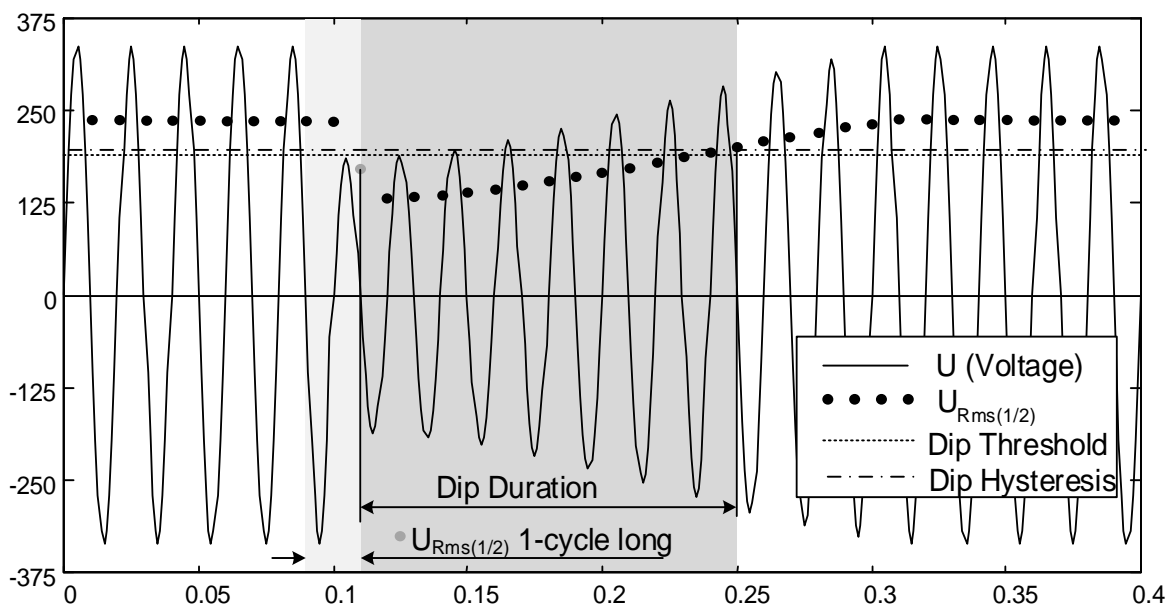
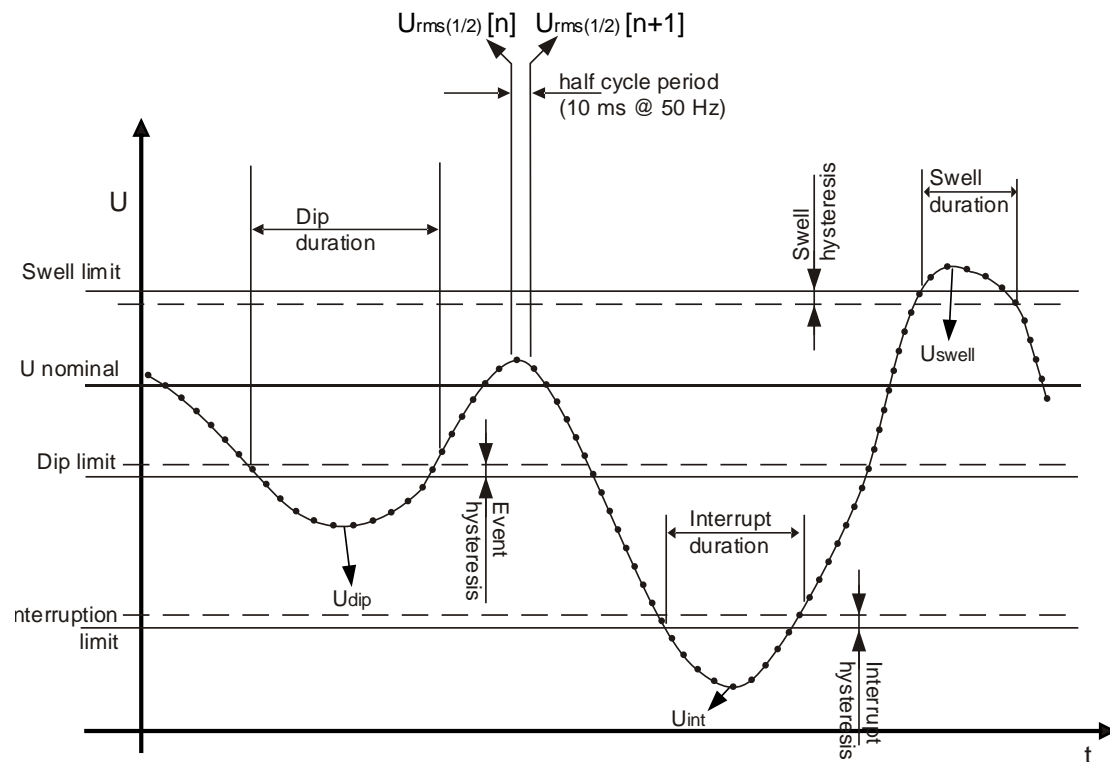

Figure 5.11:  $U_{Rms(1/2)}$  1-cycle measurement
Figure 5.12 Voltage events definition
- On single-phase system (Connection type: 1W), a voltage dip begins when the  $U_{Rms(1/2)}$  voltage falls below the dip threshold, and ends when the  $U_{Rms(1/2)}$  voltage is equal to or above the dip threshold plus the hysteresis voltage (see Figure 5.12 and Figure 5.11),.
- On single-phase system (Connection type: 1W) , a voltage swell begins when the  $U_{Rms(1/2)}$  voltage rises above the swell threshold, and ends when the  $U_{Rms(1/2)}$  voltage is equal to or below the swell threshold plus the hysteresis voltage (see Figure 5.12 and Figure 5.11),
- On single-phase system (1W), a voltage interruption begins when the  $U_{Rms(1/2)}$  voltage falls below the voltage interruption threshold and ends when the  $U_{Rms(1/2)}$  value is equal to, or greater than, the voltage interruption threshold plus the hysteresis (see Figure 5.12 and Figure 5.11),